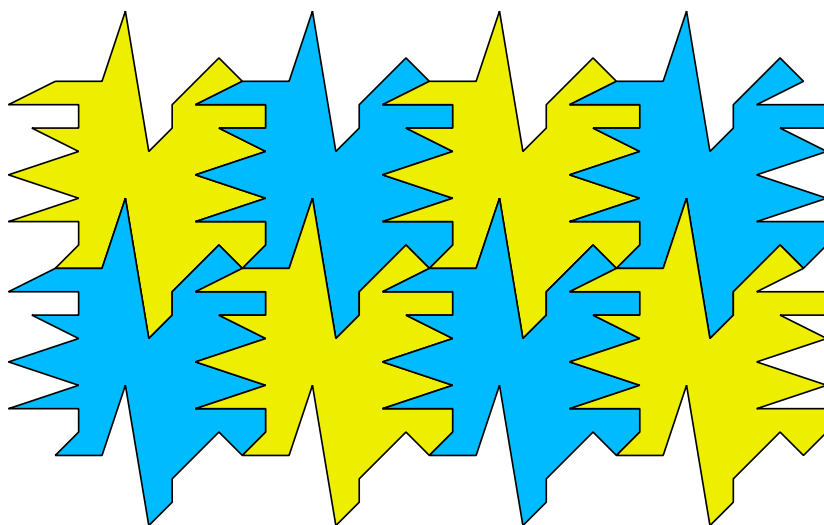

Figure 4
13. The rest of the exercise is just to copy the shapes and fit them together. This must be done one at a time to start with, but when you have a few shapes linked together these can all be selected so chunks of your design can be copied and linked in one go. Completed lines can be selected, grouped and copied, speeding up the process further. It is important to have the grid lock on at all times so that the shapes click easily into place (see fig.4)